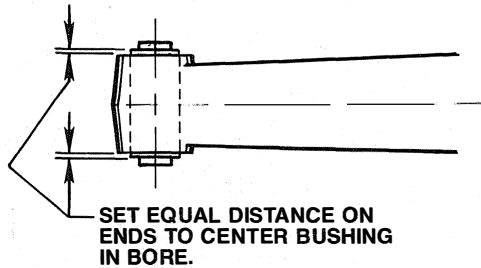

FIGURE 4
**IMPORTANT:** Measure the length of the new end bushing steel shell before installation. The bushing must be set so that the shell is centered inside the length of the bore in the equalizer beam. (See Figure 4).